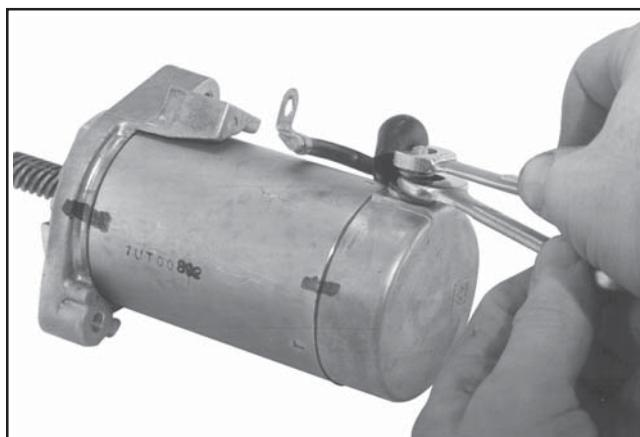

Figure 8-55. Assembling Starter Lead.
- Attach the starter lead from the solenoid to the stud and add the lock washer and outer hex jam nut to secure. Hold the lower jam nut from turning with a wrench while tightening the top nut, to prevent damaging the internal components. See Figure 8-55.